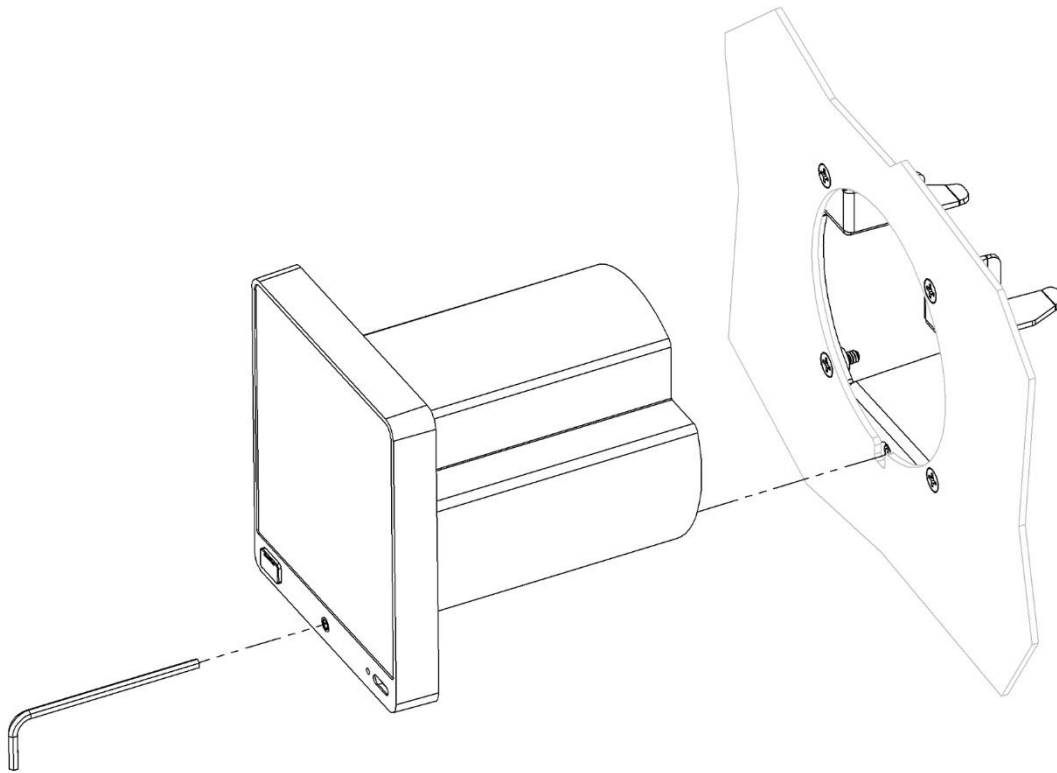

Figure 7: Instrument Panel Attachment
7. Use 3/32" hex wrench to tighten captured retaining screw that secures unit to mount bracket (see Figure 7). Tighten retaining screw to 3-5 lbs.